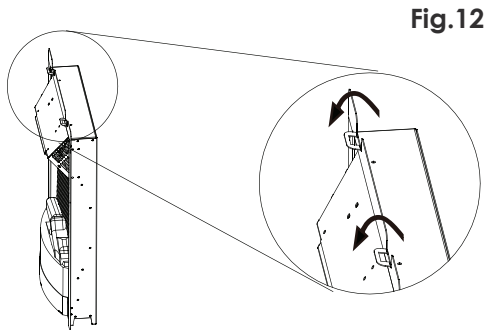

Fig.12
3. Bend the two tabs at the top of the fire forwards to accept the hooks fitted to the frame. (Fig.12)